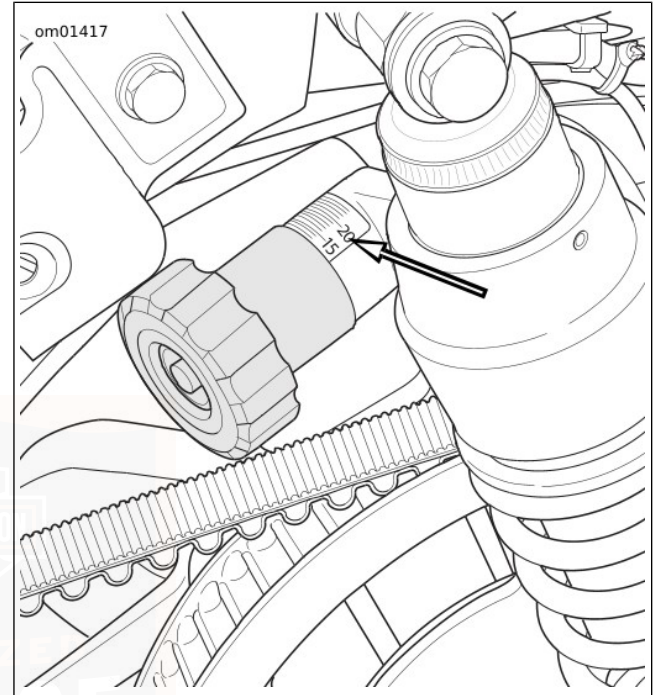

Figure 36. Preload Adjustment Knob
2. See Figure 36. Rotate the knob to the desired setting for the expected load. The knob will click after each half turn. Refer to Table 23, Table 24 or Table 25.